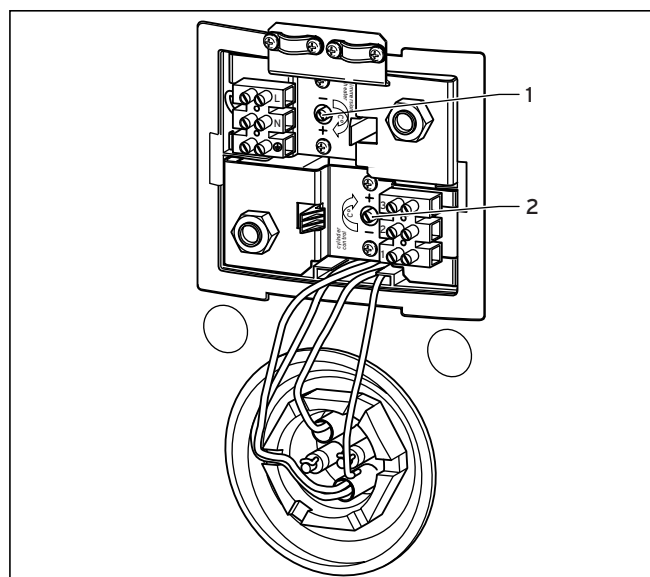

Fig. 6.4 Setting thermostats
- Set the knob of the hot water thermostat of the solar cylinder (2, Fig. 6.4) and immersion heater (1, Fig. 6.4) to the middle position (about 45 °C) for start-up and to achieve maximum energy efficiency.
- If the hot water temperature is controlled via the build-in cylinder thermostat, set the according knob (2, Fig. 6.4) to 45 °C.
- Set the thermostat of the immersion heater (1, Fig. 6.4) to the desired temperature.